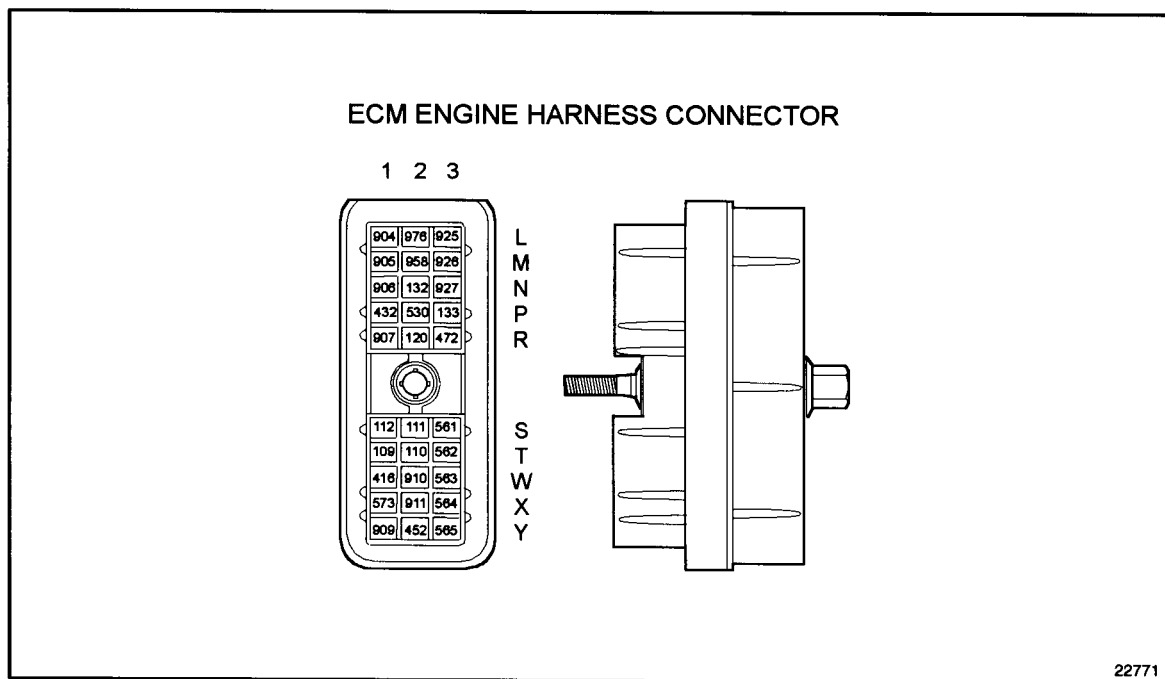

Figure 41-2 Engine Harness Connector
2. Disconnect engine harness connector at the ECM of the ECM associated with the code. See Figure 41-2.